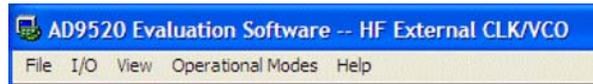

Figure 24. Menu Bar
7. From the **View** menu on the menu bar (see Figure 24), and select **Debug**. Click the **I²C Debug** button. The window shown in Figure 29 appears.